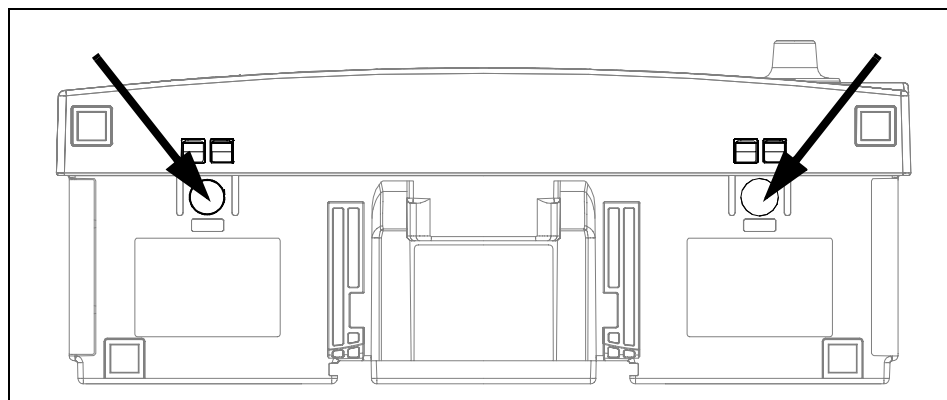

Fig. 3-5 Front Panel Latch Release Pressure Points on Bottom of Monitor
- 2) Press down firmly on thumb depressions on bottom of monitor (see Fig. 3-5) to release front panel latches, and slightly separate bottom of front panel subassembly from rear housing.